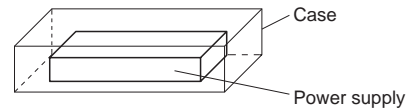

Fig.3.2 Installation example
- There is a possibility that it is not possible to cool enough when the power supply is used by the sealing up space as showing in Figure 3.2. Please use it after confirming the temperature of point A and point B of Instruction Manual 3.2.